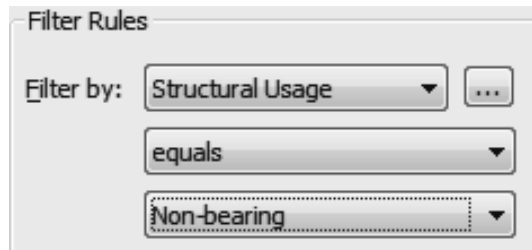

Figure 1–65
- In the *Filter Rules* area, set *Filter by* to **Structural Usage**, **equals**, and **Non-bearing**, as shown in Figure 1–65.